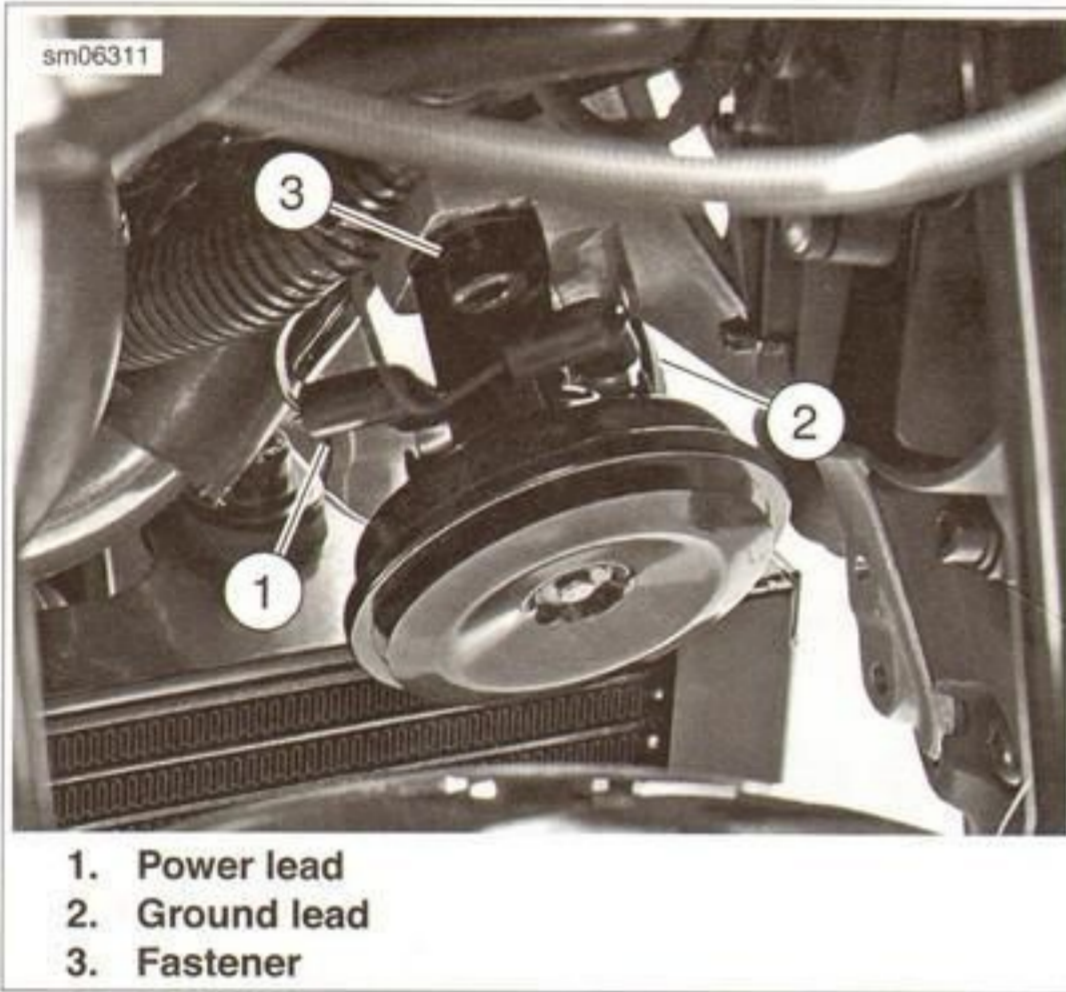

Figure 7-40. Horn
2. See Figure 7-40. Separate the power lead (1) and the ground lead (2) from the spade terminals.
3. Remove the horn fastener (3).